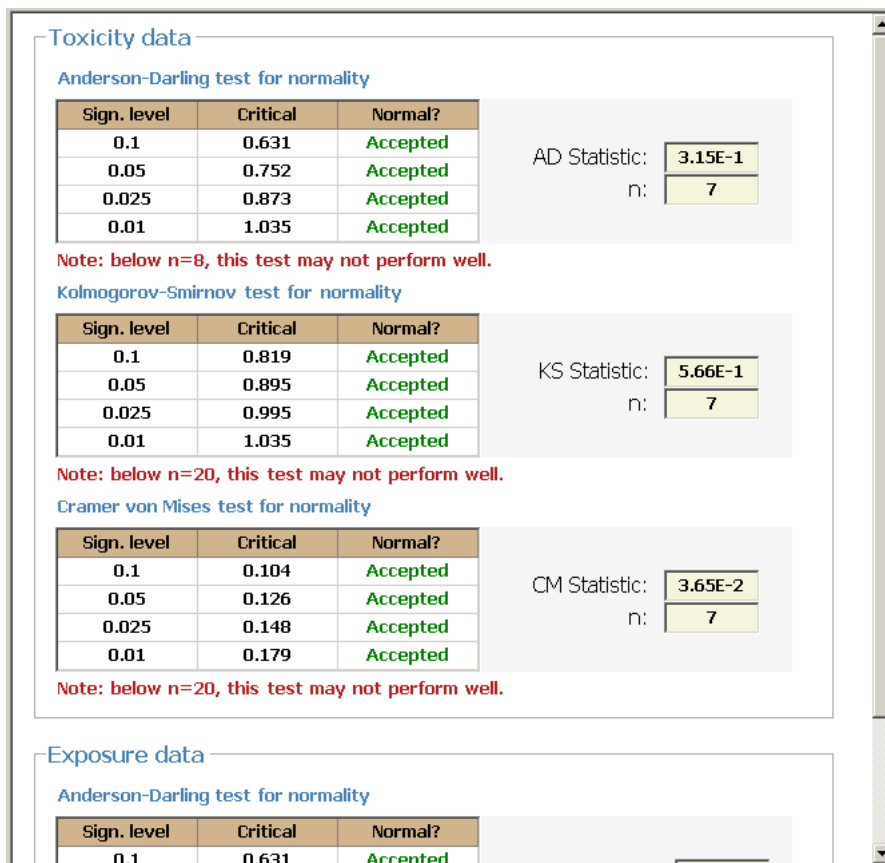

Figure 27. Output goodness-of-fit tests.
- ▶ Go to the **Goodness-of-fit** sheet and check if your data are normally distributed (Figure 27, shown at the next page). In this example it is probable that the data derive from a normal distribution.